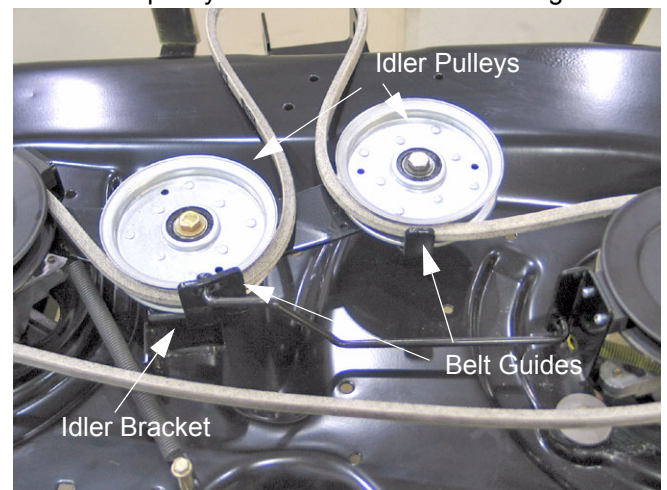

Figure 8
- 2.3. Using a 9/16" socket and an open-end wrench, loosen but do not remove the nuts securing both idler pulleys to the idler bracket. See Figure 8.